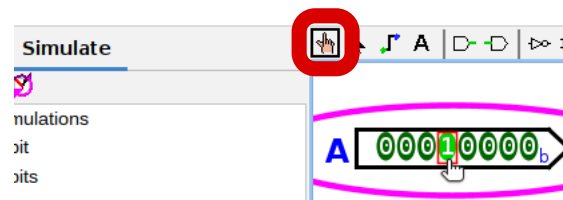

Figure 5: Simulation: you have to click on the *Hand* icon before.
To launch a simulation, you must first click on 'simulate', see Figure 5.
- ▷ test your application with different inputs: in *simulate* mode, use the *hand* icon. You just need to click on the ports, as in Figure 5